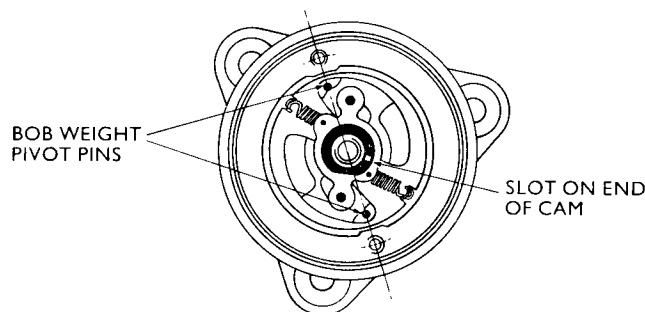

FIG. 20 Contact Breaker location (approximate)
5. Position the contact breaker cam as shown in Figure 20 which is an approximate setting.